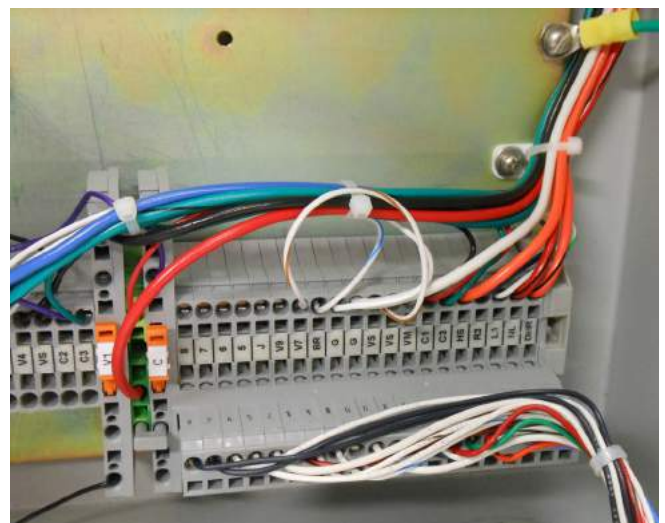

Figure 7. Control plugged into backpanel terminal board and ground wire connected
9. Connect the green ground cable to the back panel. Refer to **Figure 7**.
10. Plug the wiring harness connector into terminal board receptacle on the backpanel. Make sure to face the plug in the correct direction so that the terminal marking match those on the top of the plug. Refer to **Figure 7**.